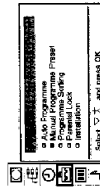

Fig. 6
- 1 Select the symbol  for «Preset» with Δ or ∇ - and press OK. The PRESET menu appears. (See Fig. 6)